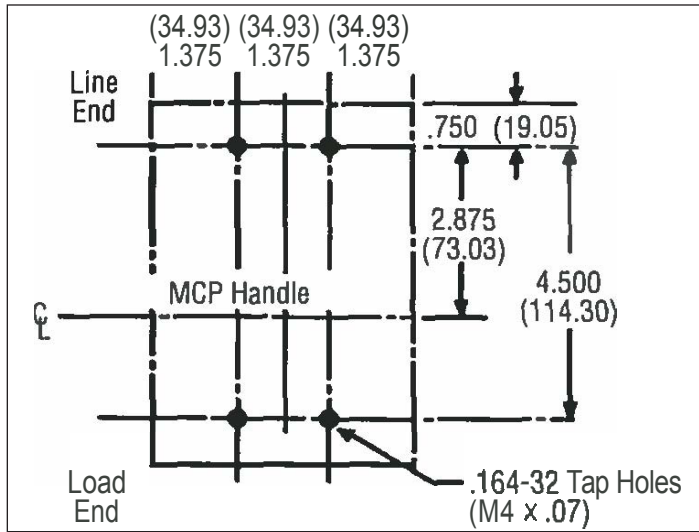
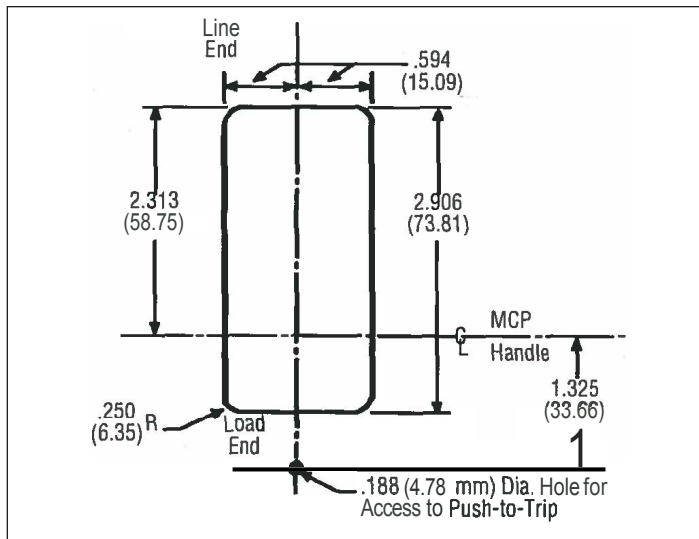

Figure 2. MPCB Mounting Bolt Drilling Plan.
Figure 3. MPCB Escutcheon Dimensions.
- A. For individual mounting panels, make sure that mounting panel is predrilled using bolt drilling plan (see Figure 2). For panelboard mounting, only the load end support mounting holes are required. For deadfront cover applications, make sure the panel cover is cut out to the correct escutcheon dimensions (see Figure 3).